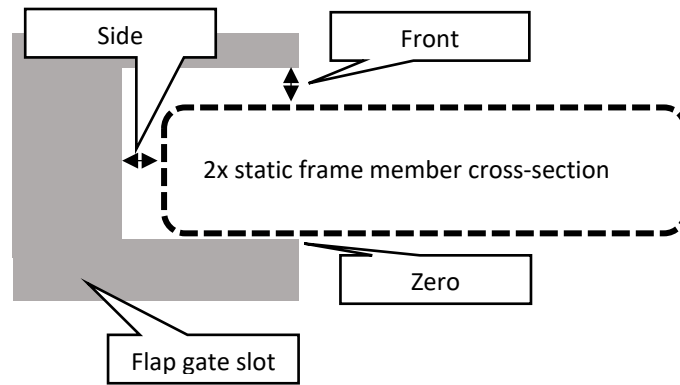

Figure 2. Key measurements and clearances needed prior to installing isolation material (plan view)
Step 2. Measure the available clearance (see Figure 2) between the gate and structural slot to select an appropriate rubber material thickness and avoid future installation issues (see Figure 2). When the flap gate is (or will be) installed in a concrete slot, it is important to measure the slot widths and depths at several locations because concrete slot dimensions are rarely uniform.